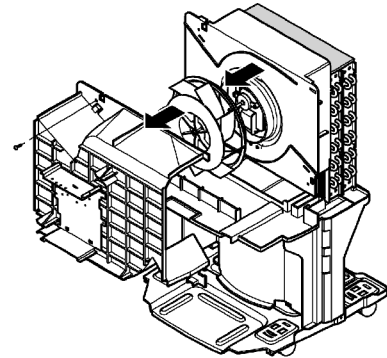

Figure 23
2. Remove the screw that secures the housing and orifice. Separate the orifice from the housing after unhooking 3 hooks on the housing. (See Figure 23)
3. Turn the nut clockwise and pull out the fan carefully. (See Figure 23)